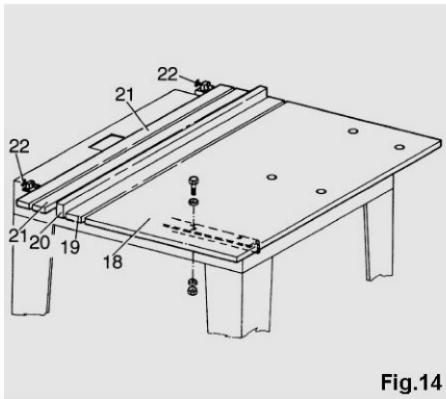

Fig.14
- 3) Carefully tighten all the screws of the brackets and proceed to fasten the worktable. Position the wooden worktable (18) and fasten it with the screws, washers and nuts as shown in figure 14.